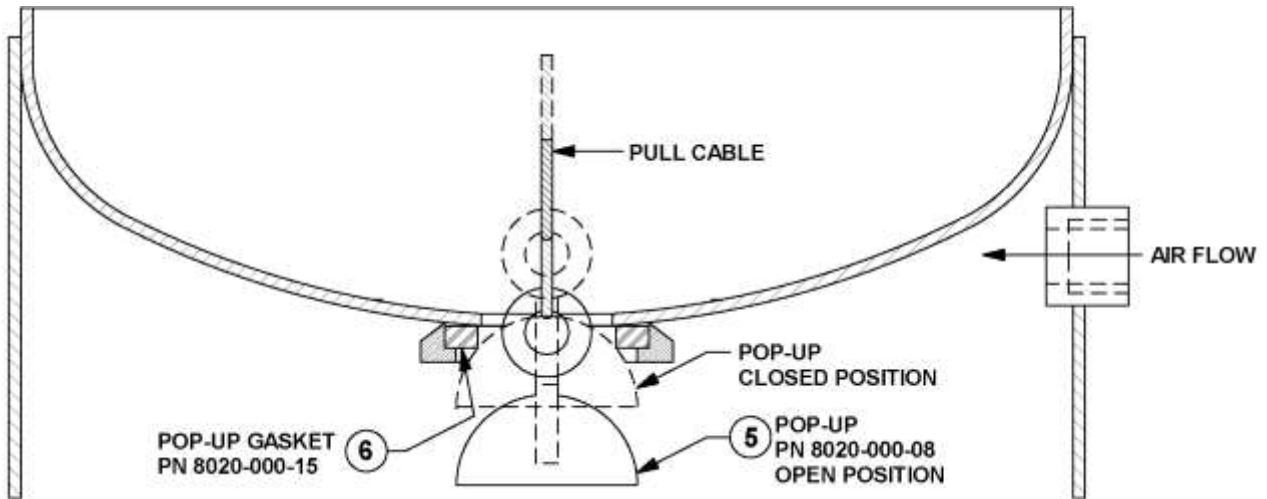

Figure 8.1 – Mini Blaster Manual Popup Assembly
- e) Pull the popup against the gasket and check for proper seating as shown in Figure 8.1.